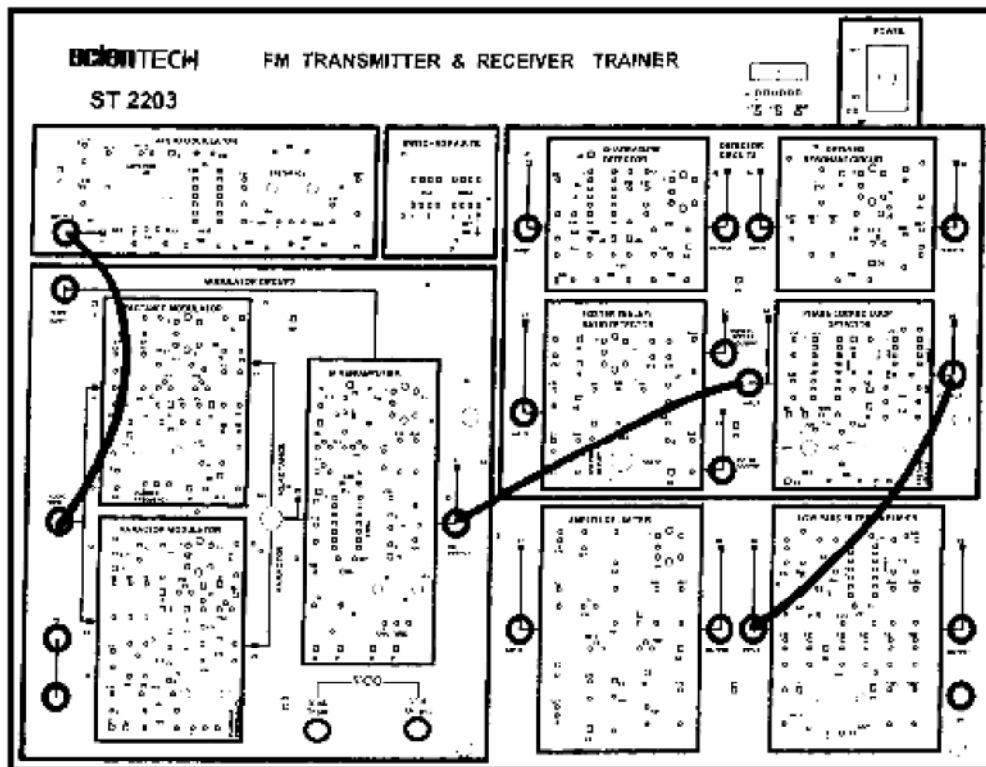

Figure 5: Connections for FM Demodulation using PLL
5. Make the connections shown in figure 5.